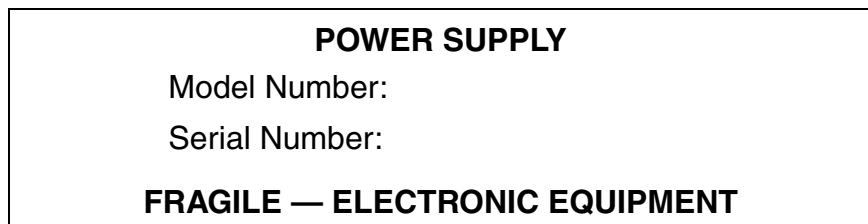

Figure 2.1 Shipping or Storage Carton Label
3. Label the carton as shown in Figure 2.1.